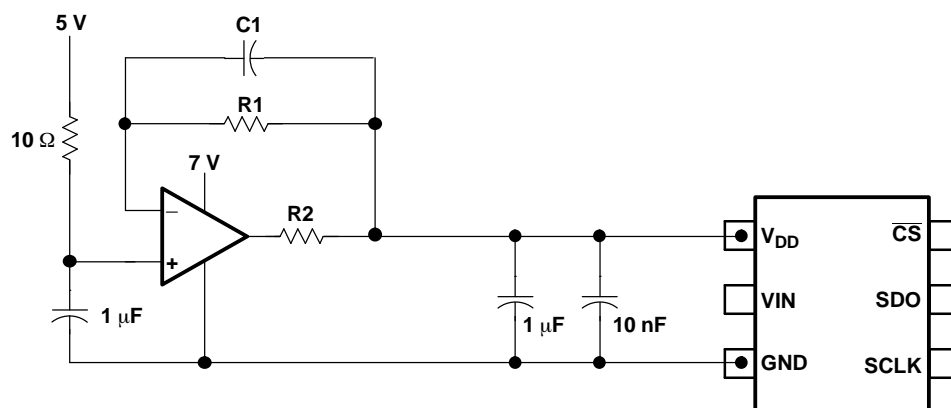

Figure 39. Buffering with the OPA735
- A low-pass filtered version of the system supply followed by a buffer like the zero-drift OPA735 can also be used in cases where the system power supply is noisy. Care should be taken to ensure that the voltage at the VDD input does not exceed 7 V (especially during power up) to avoid damage to the converter. This can be done easily using single supply CMOS amplifiers like the OPA735. Figure 39 shows one possible application circuit.